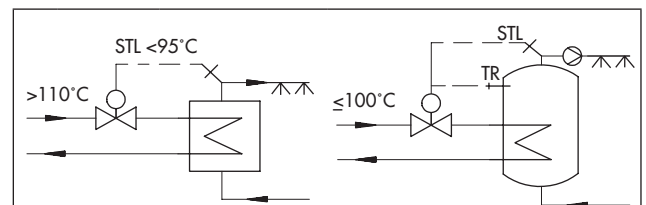
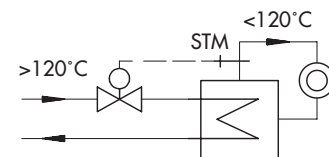
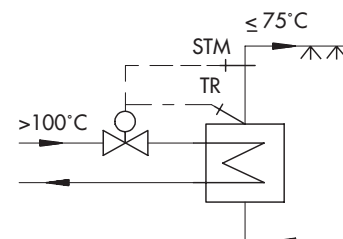

Fig. 1: DHW heating according to DIN 4753
Fig. 2: Heating system with safety temperature monitor according to DIN 4747-1
Fig. 3: DHW heating with temperature regulator and safety temperature monitor according to DIN 4747-1
The designation of safety devices is stipulated in DIN EN 14597 (temperature control devices and temperature limiters for heat generating systems). The temperatures specified in Fig. 1 to Fig. 3 are intended only as a guide to the typical application ranges of the devices shown. The devices needed in each case must meet the requirements of the installation and comply with the relevant safety regulations.
**Temperature regulators (TR)**, which are typetested, are necessary in many installations. They constantly measure the temperature as a controlled variable, compare it with a given set point, correct the actual temperature according to the set point and interrupt the energy supply when the temperature exceeds the set point.
**Safety temperature monitors (STM)** interrupt the energy supply when the temperature reaches the adjusted limit, when the capillary tube ruptures or when there is a leak in the sensor (Fig. 2 and Fig. 3). They reset themselves automatically when the temperature has fallen below the limit and the fault has been remedied.
**Safety temperature limiters (STL)** interrupt and block the energy supply when the temperature reaches the adjusted limit, when the capillary tube ruptures or when there is a leak in the sensor (Fig. 1). They can only be reset and put back into operation with a tool when the temperature has fallen below the limit and the fault has been remedied.